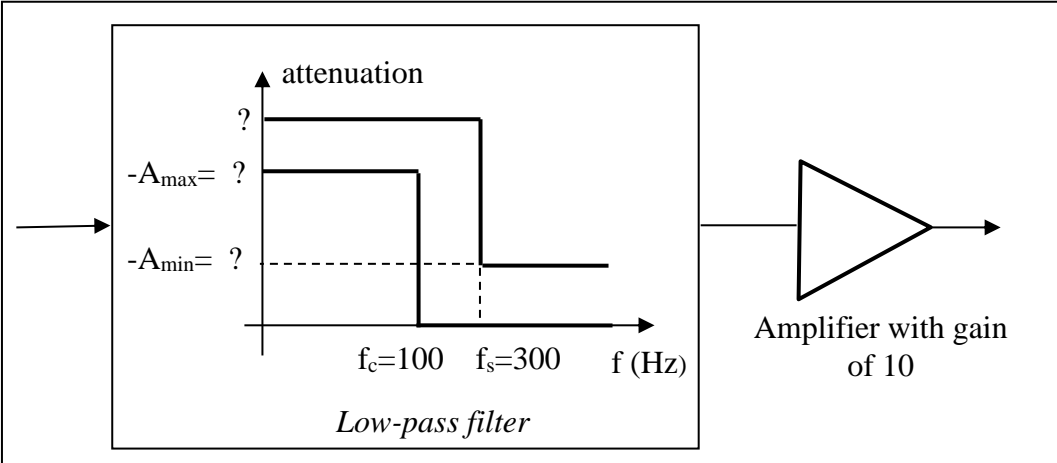

Figure 3: Filter produced by cascading together a low-pass filter and an amplifier with a gain of 10.
Question 1: The filter is produced by cascading together a low-pass filter and an amplifier with a gain of 10. Complete the digital values in the template of the low-pass filter in Figure 3.
Question 3: From the completed template in Figure 3 and equation (1), we obtain **2 equations with 2 unknowns** for the two specific points f_c and f_s . Derive the expression for **order n** and **angular frequency ω_0** . Start by calculating n , then select the integer just above this value and extract ω_0 .